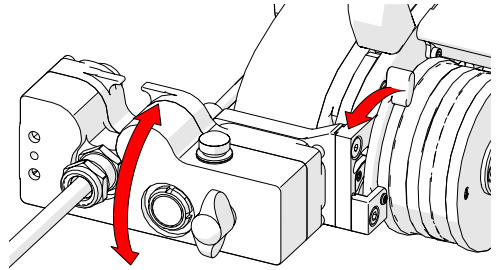

Fig. 88 - Adjust umbilical mount angle
4. The right drive module's umbilical mount can pivot to allow low profile scanning. Use the lock lever to position the umbilical mount at the desired angle (Fig. 88).